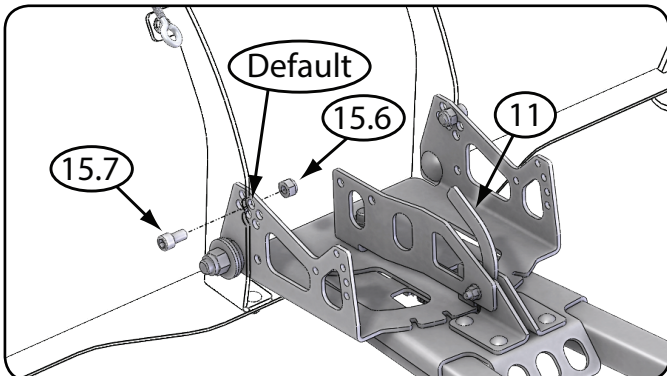

Figure 9 - Pitch Adjustment Bolt (spring not shown for clarity)
Figure 9 shows the default position.
- With springs installed and pitch blade under tension, install $\frac{3}{4}$ in. (19.1 mm) hex socket head cap screw (15.7) using $\frac{3}{8}$ in. (9.5 mm) Allen wrench or pliers; and $\frac{7}{16}$ in. (11.1 mm) lock nut (15.6) into desired pitch position hole. As shown in Figure 9.